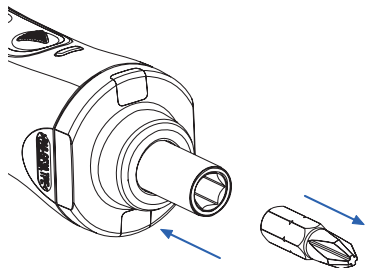

Fig. 2: Hex drive chuck
2. To remove the bit pull out the bit or extension rod directly (Fig. 2).